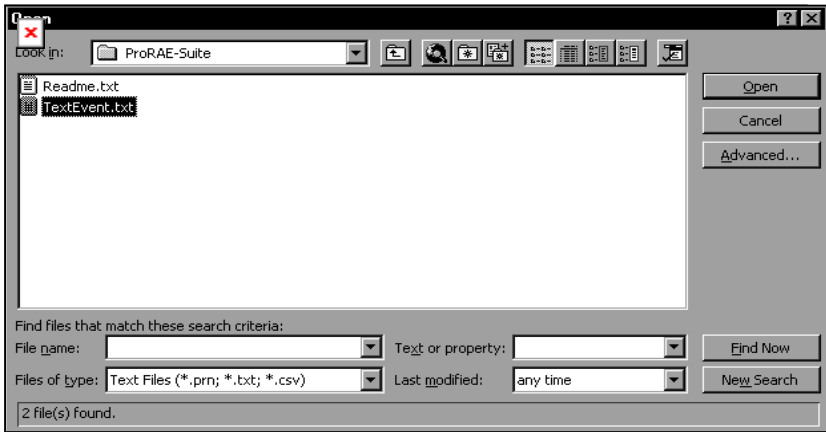

Figure C-2 Open Dialog Box
- Click **File->Open** menu item to open the **Open** dialog box, select the folder where the file TextEvent.txt is resided, and select the **Files of type** as Text Files. Click to select the file TextEvent.txt, as shown in Figure C-2.